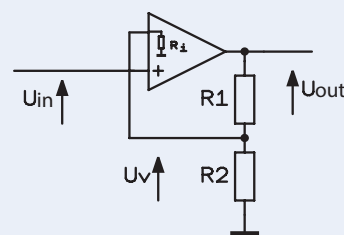

Figure 3: The non-inverting amplifier.
**Figure 3** shows the basic schematic diagram of the non-inverting amplifier. In this minimalistic version, here you also need only two external resistors.